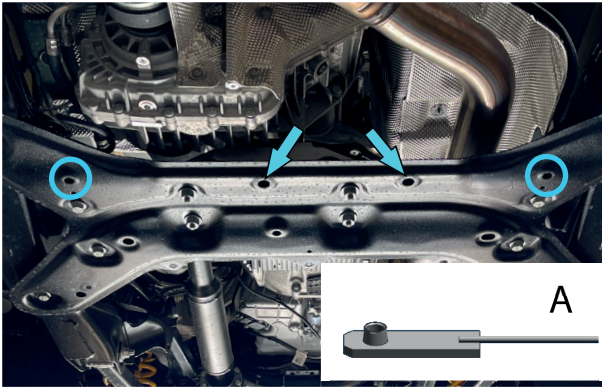

Fig. 1
1. Install insert nuts M10 with wire (item A) into side holes through center holes (fig.1).